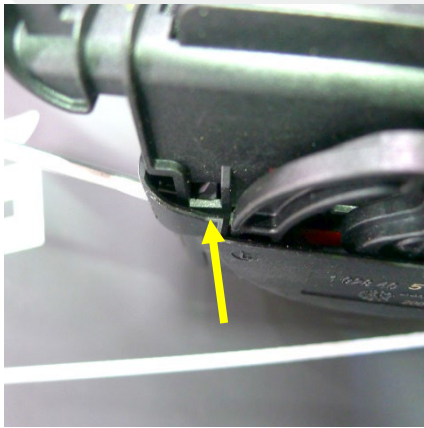
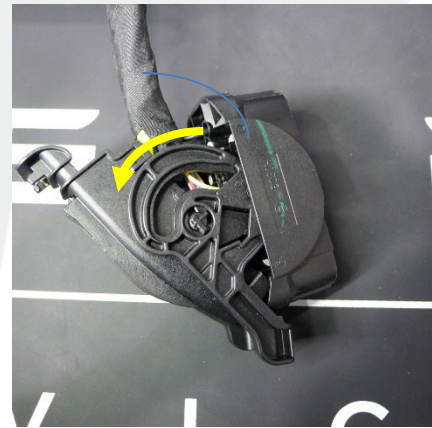

Figure 13
Figure 14
14. Release the tabs (x2) that attach the rear cover to connector X151 (Figure 13), swing the rear cover out (Figure 14), and then remove the rear cover from the connector.